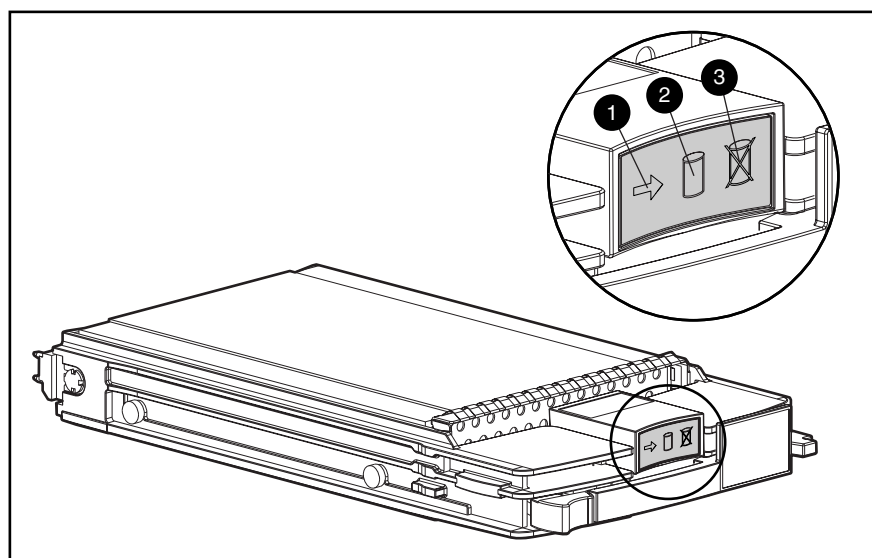

Figure 4-6: Hot-plug hard drive LEDs
The hot-plug SCSI hard drive LEDs, located on each physical drive, are visible on the front of the server or external storage unit. They provide status information regarding drive activity (1), connectivity (2), and fault (3) status for each corresponding drive when configured as part of an array and connected to an array controller. Their behavior may vary, depending on the status of other drives in the array. Use the illustration in Figure 4-6 in conjunction with Table 4-7 to analyze current status for hot-plug hard drives that are connected to an array controller.